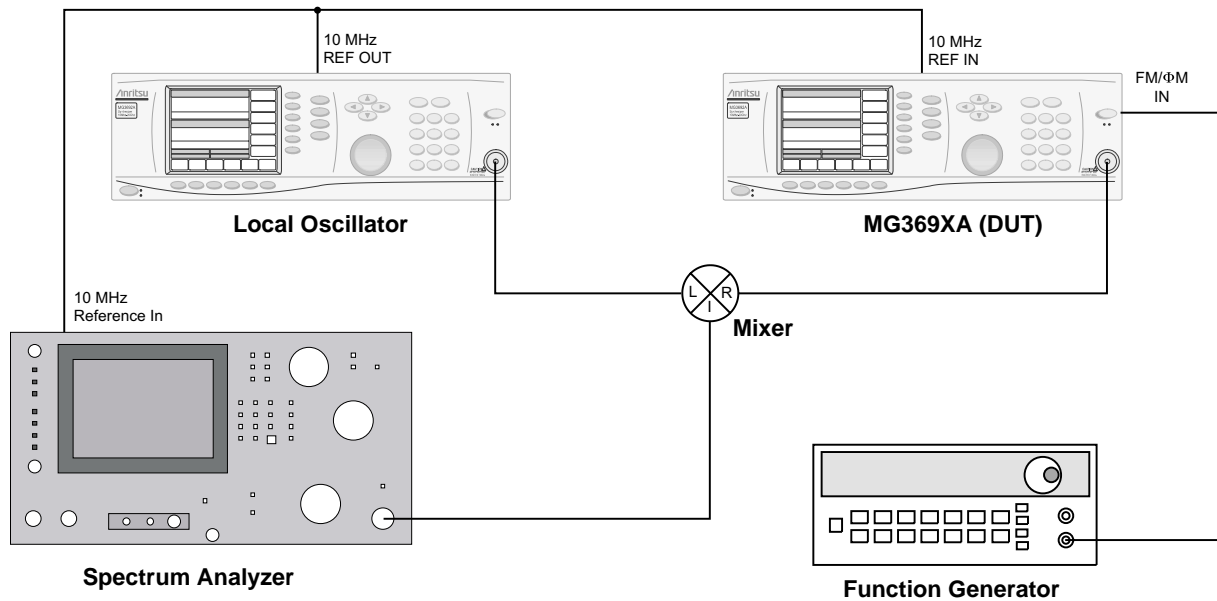

Figure 3-11. Equipment Setup for Frequency and Phase Modulation Bandwidth Tests
Connect the equipment, shown in Figure 3-11, as follows:
Step 1. Connect the equipment as shown in Figure 3-11.
- Step 1.** Connect the equipment as shown in Figure 3-11.